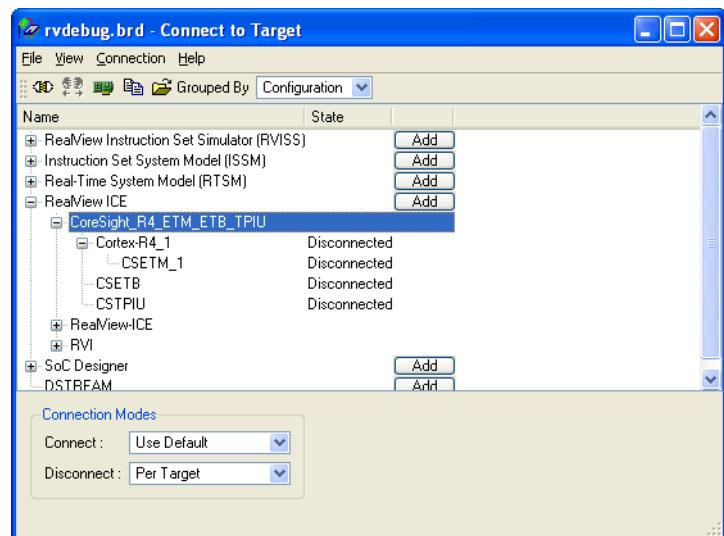

Figure 3-15 Targets on a CoreSight development platform
Example 3-1 shows the associations file entries for the topology shown in Figure 3-15 on page 3-37:
6. Expand the Debug Configuration for your development platform. An example of a development platform with CoreSight components is shown in Figure 3-15 on page 3-37:
8. Right-click on the component for which you want to view the topology. For the example shown in Figure 3-15, right-click on CSETM_1.